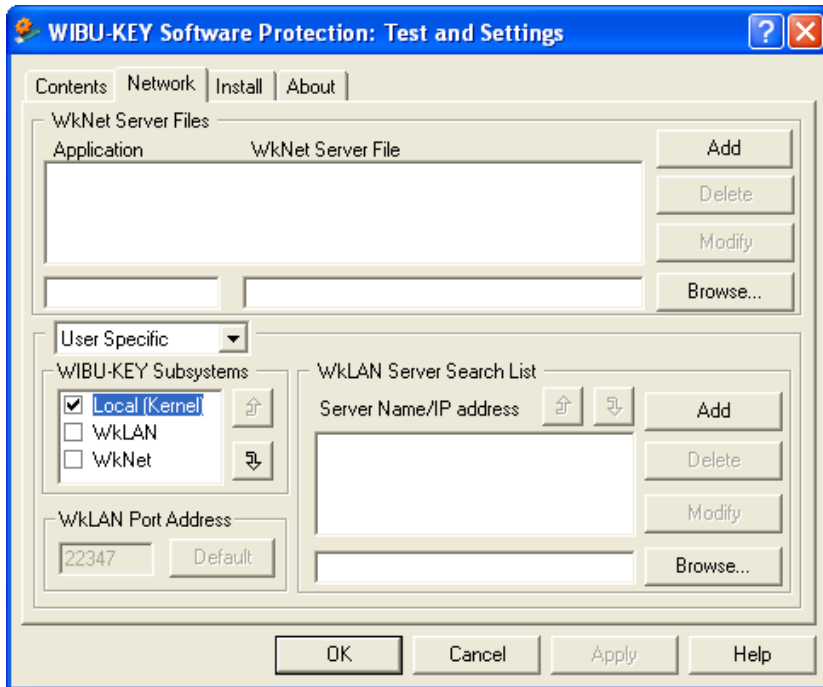

Figure 1-1: Set the Security Device to "Local (Kernel)"
4. Make sure in the WIBU-KEY Subsystems section that the Local (Kernel) is the only item checked. See Figure 1-1.